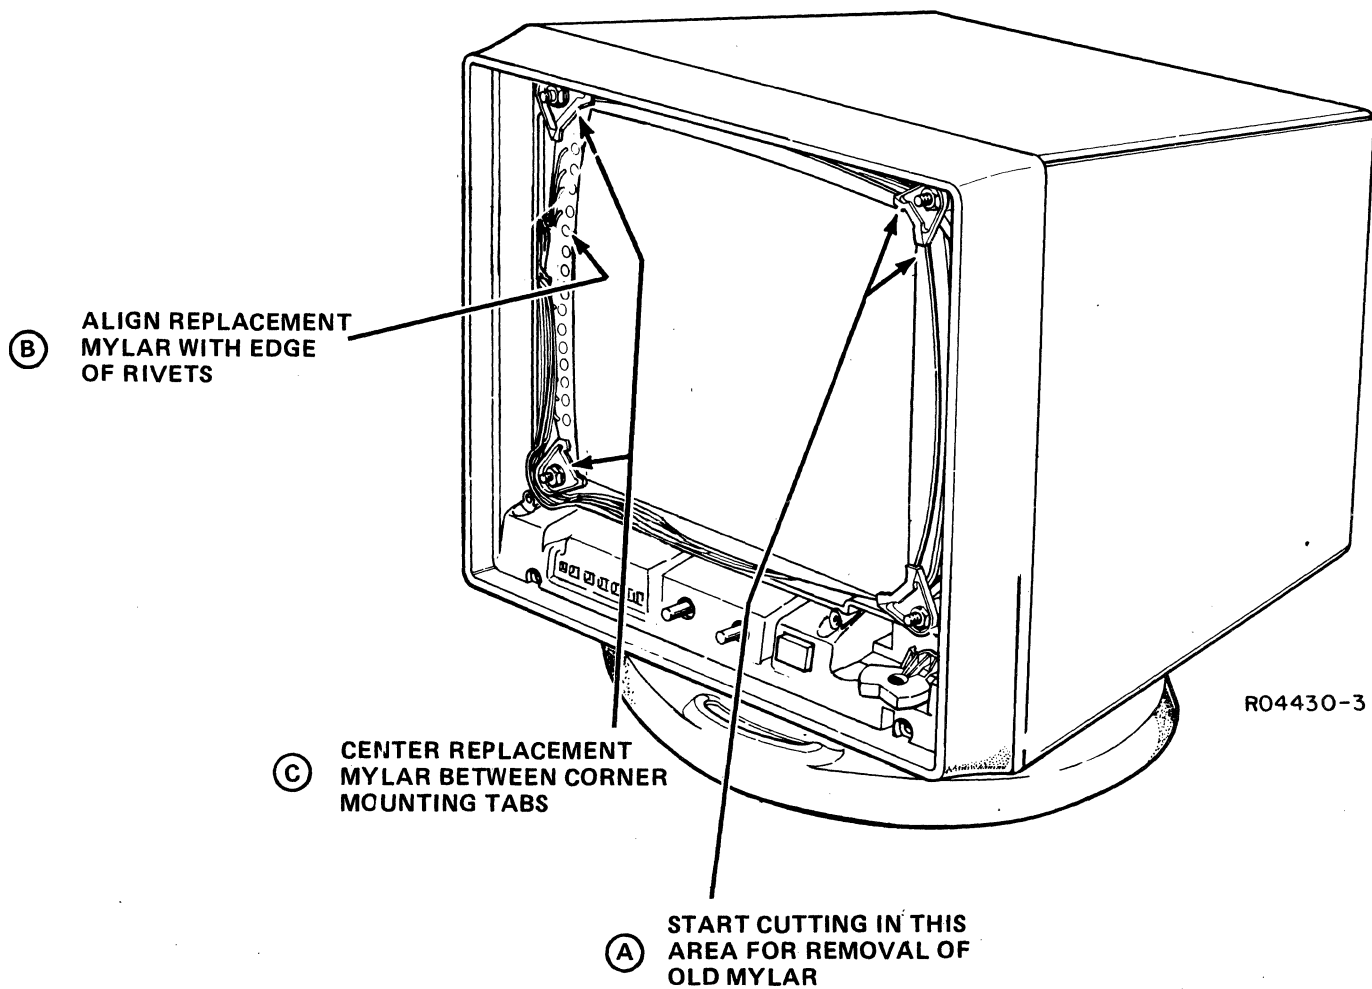

Figure 6B-20.1 - Touchpanel Outer Mylar Replacement
3. Using a sharp knife (X-Acto type), start in upper right corner of touchpanel and begin cutting tape that holds outer mylar to touchpanel (See Callout A of figure 6B-20.1). Cut as close to the junction of the tape and mylar as possible.